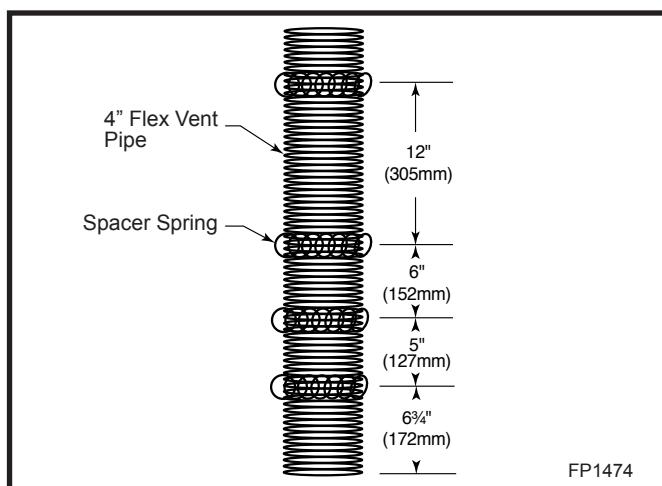

Fig. 27 Install spacer springs.
Install the four (4) spacer springs on the 4" flex vent pipe. When installing the spacer springs around the 4" pipe, stretch the spring to approximately 15" (381 mm), wrap the spring around the pipe and interlock the ends of the spacer spring approximately 2" (51 mm). Measure 6¾" (172 mm) from the end of the pipe. Place the next spring 5" (127 mm) from the previously installed spring. Place the next spring 6" (152 mm) from the last spring. Finally place the last spring 12" (305 mm) from the last spring installed. (Fig. 27)